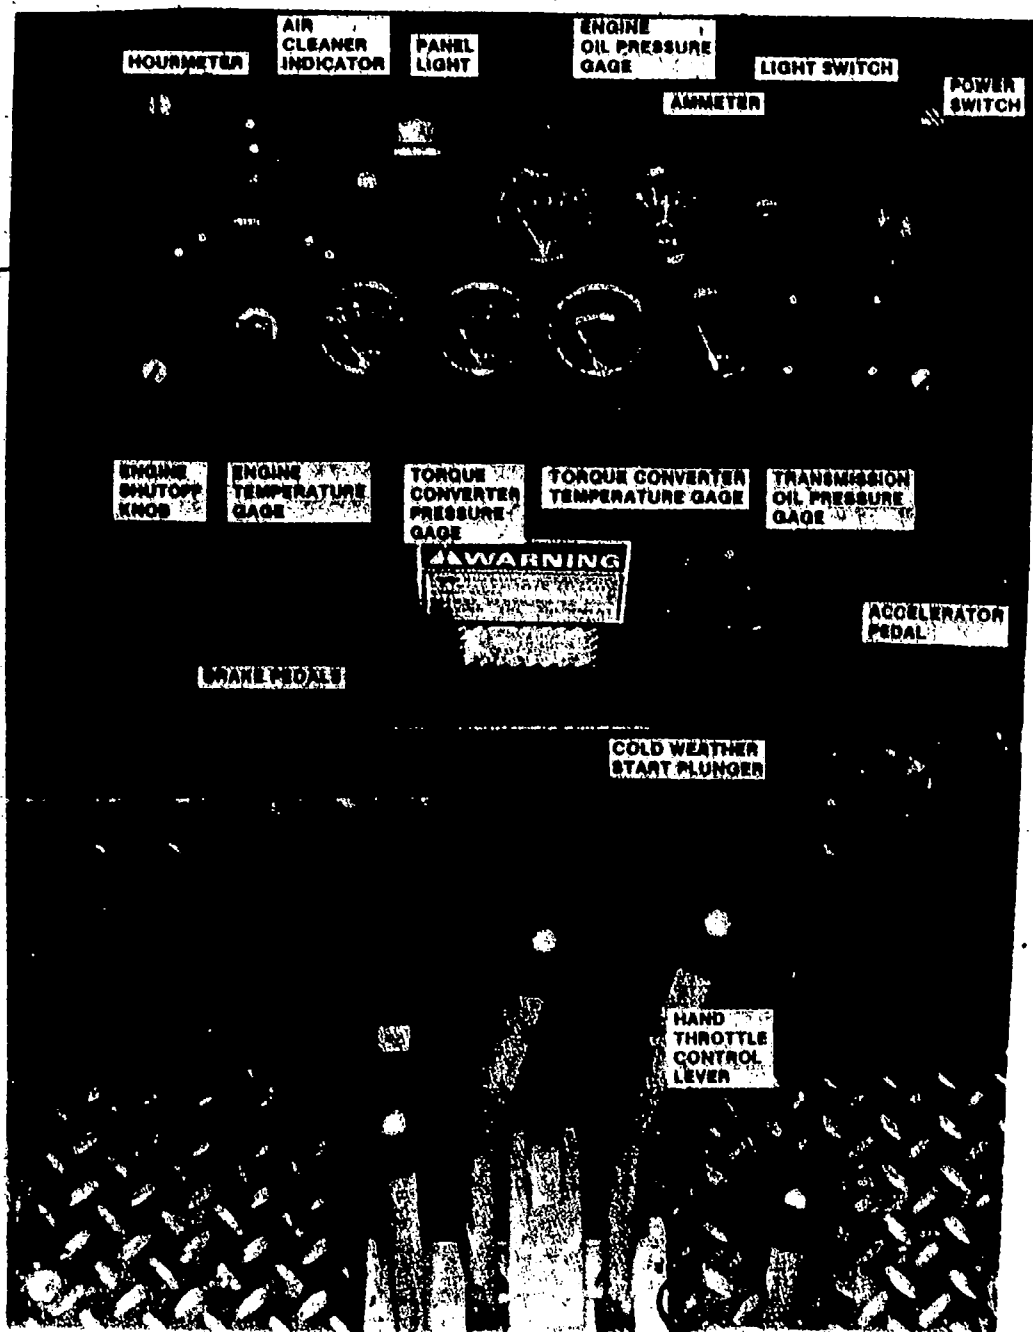

Fig 4-4. Controls and instruments.
(1) Controls and instruments. Figure 4-4 locates, illustrates, and furnishes the operator with information pertaining to the various controls and instruments for proper operation of the tractor.
- Immediately after starting the engine, check the instruments for readings. After the engine has warmed up, check the engine temperature gage (fig 4-4) for the correct reading.